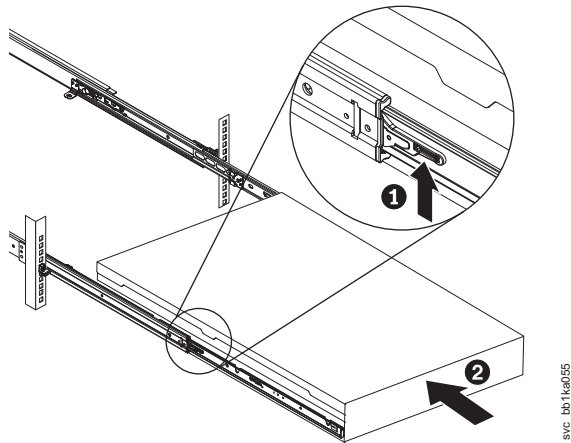

Figure 119. Raising the locking levers of the slide rails of the rack
12. Lift the locking levers (**1** in Figure 119) on the slide rails and push the node **2** all the way into the rack until it clicks into place.